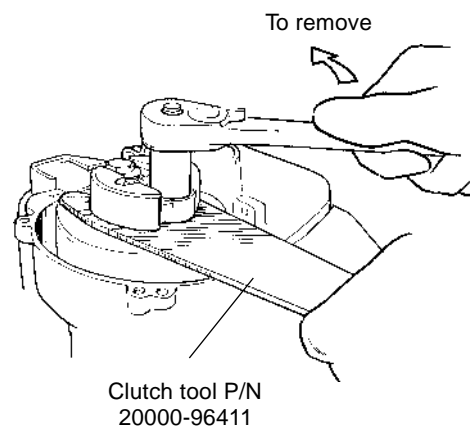
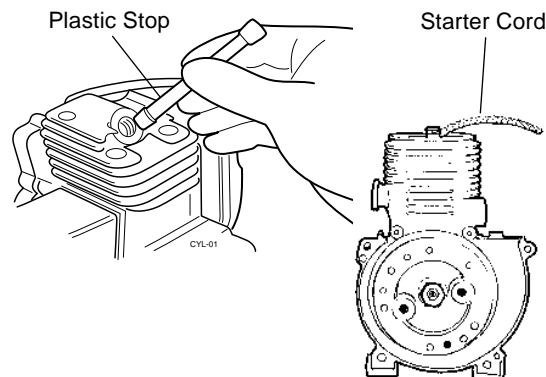

Figure 6.4 Using the clutch tool.
Figure 6.5 Two methods of locking the flywheel
STEP 1. Lock the flywheel in position with clutch tool p/n 20000-96411 (Figure 6.4), or use a soft piston stop or short length of starter cord as shown in Figure 6.5.
STEP 2. Use a soft piston stop or short length of starter cord to lock the flywheel in position (Figure 6.5).